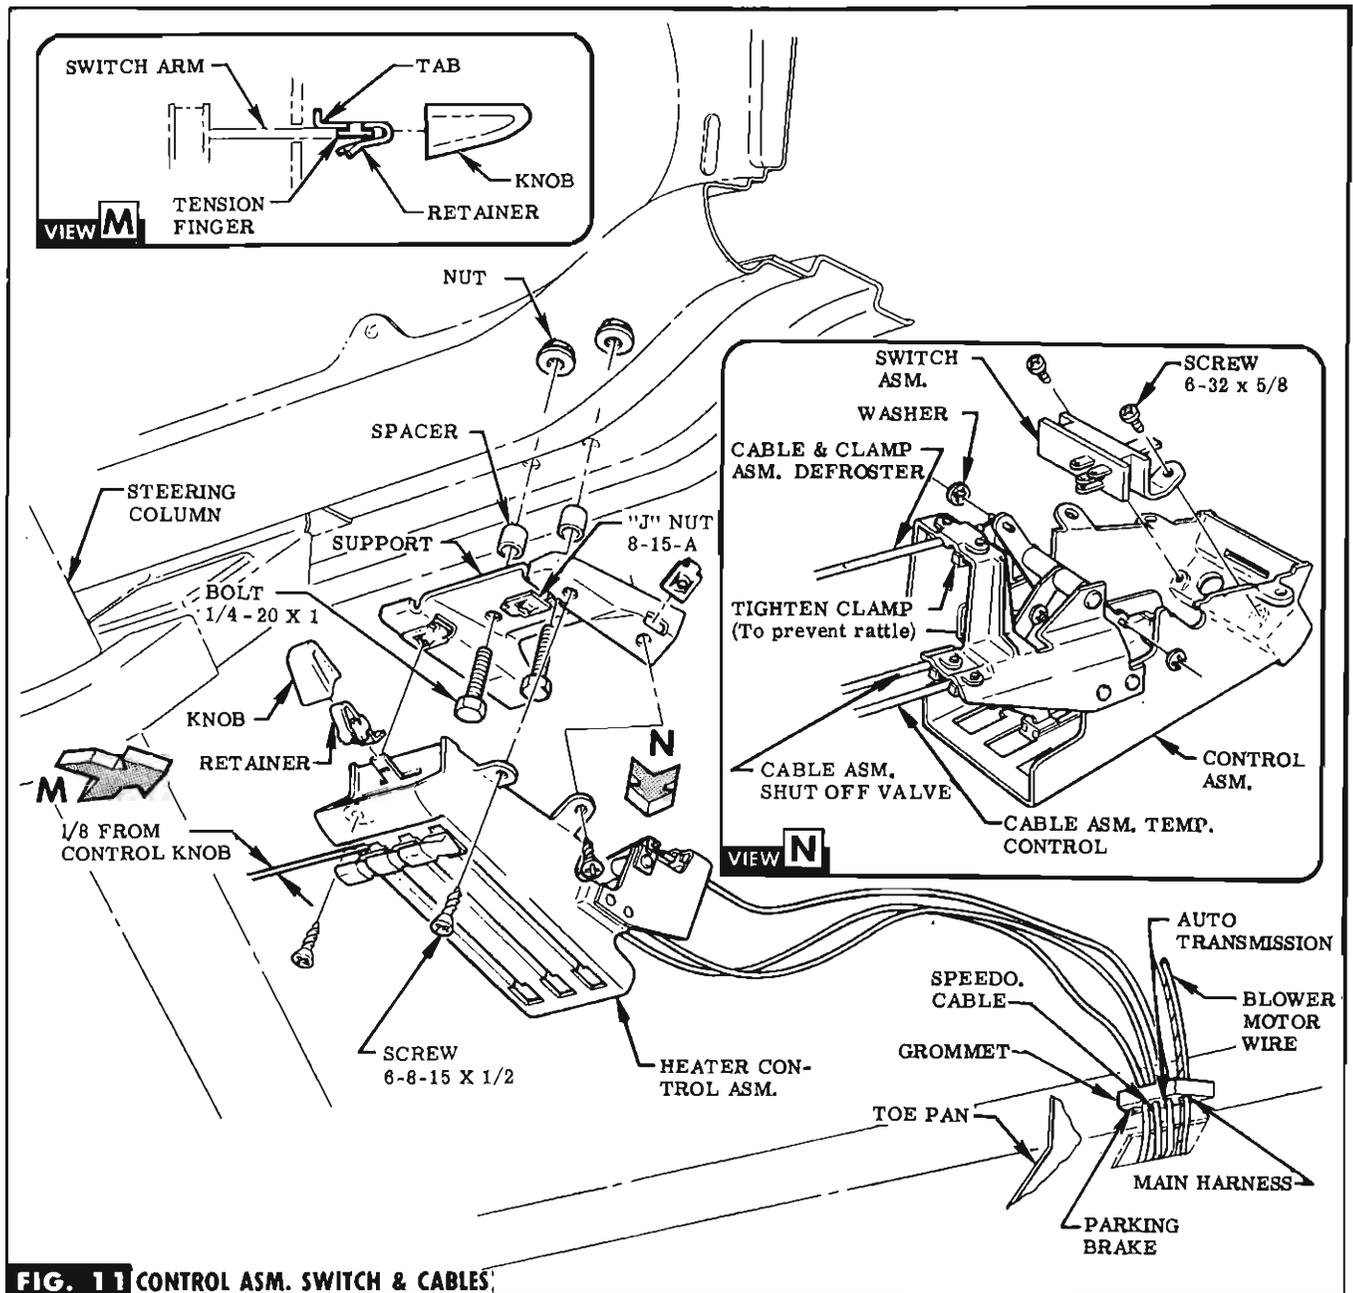

FIG. 11 CONTROL ASM. SWITCH & CABLES
NOTE See Fig. 11 for routing of cables in cab & attachment to control asm.
STEP 51 REMOVE GROMMET RETAINER FROM TOE PANEL & DISCARD EXISTING GROMMET. ROUTE CONTROL CABLES & BLOWER MOTOR WIRE THRU OPENING IN TOE PANEL & THRU GROMMET (IN BAG A). POSITION GROMMET & THEN SECURE WITH EXISTING RETAINER. SEE FIG. 11.
STEP 53 MOVE AIR, HEAT & DEFROSTER KNOBS DOWN SO THAT LEVERS ARE 1/8 INCH FROM TOP OF SLOT. THE CONTROL LEVERS ARE TO BE POSITIONED AS SHOWN WHEN MAKING THE ATTACHMENT OF EACH END OF THE CONTROL CABLES. AFTER THE UNIT IS COMPLETELY INSTALLED IN THE VEHICLE & ALL LEVERS ARE SET IN THE "OFF" OR "UP" POSITION, THE FRICTION IN THE CONTROL & CABLES IS SUFFICIENT TO HOLD THE LEVERS TO WITHIN 1/8 OF THE TOP OF THE SLOT IN THE CONTROL FACE PLATE. SEE FIG. 11.
WIRE LOOPS OF CABLES TO THEIR RESPECTIVE CONTROL LEVERS WITH RETAINING WASHERS (IN BAG A). SEE FIG. 11.
STEP 55 INSTALL KNOB (IN BAG A) ON SWITCH LEVER WITH RETAINER (IN BAG A). SEE FIG. 11 & VIEW M.
STEP 56 INSTALL HEATER CONTROL SUPPORT TO INSTRUMENT PANEL WITH BOLTS, SPACERS & NUTS (IN BAG A). SEE FIG. 11.
STEP 57 SLIP J-NUTS (IN BAG A) IN PLACE ON SUPPORT & INSTALL HEATER CONTROL TO SUPPORT WITH SCREWS (IN BAG A). SEE FIG. 11.